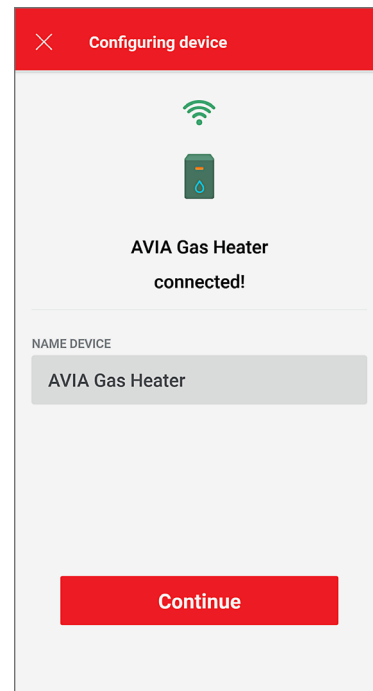

Figure 103. Device Name
1. Your device is now connected to Wi-Fi. You can change the name of your device here. See **Figure 103**.